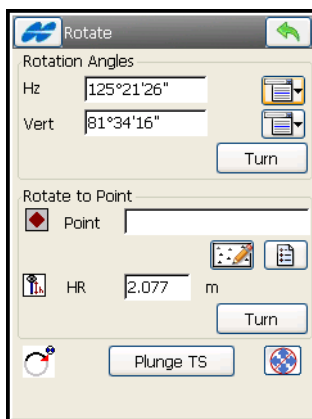

Figure 10-28. Rotate the Remote Total Station
-  – opens the **Rotate** dialog (Figure 10-28 on page 10-27), which allows the Total station to turn to various angles or points.
The **Rotate** screen (Figure 10-28) contains settings for rotation of the remote total station.
opens the Rotate dialog (Figure 10-28 on page 10-27), which allows the Total station to turn to various angles or points